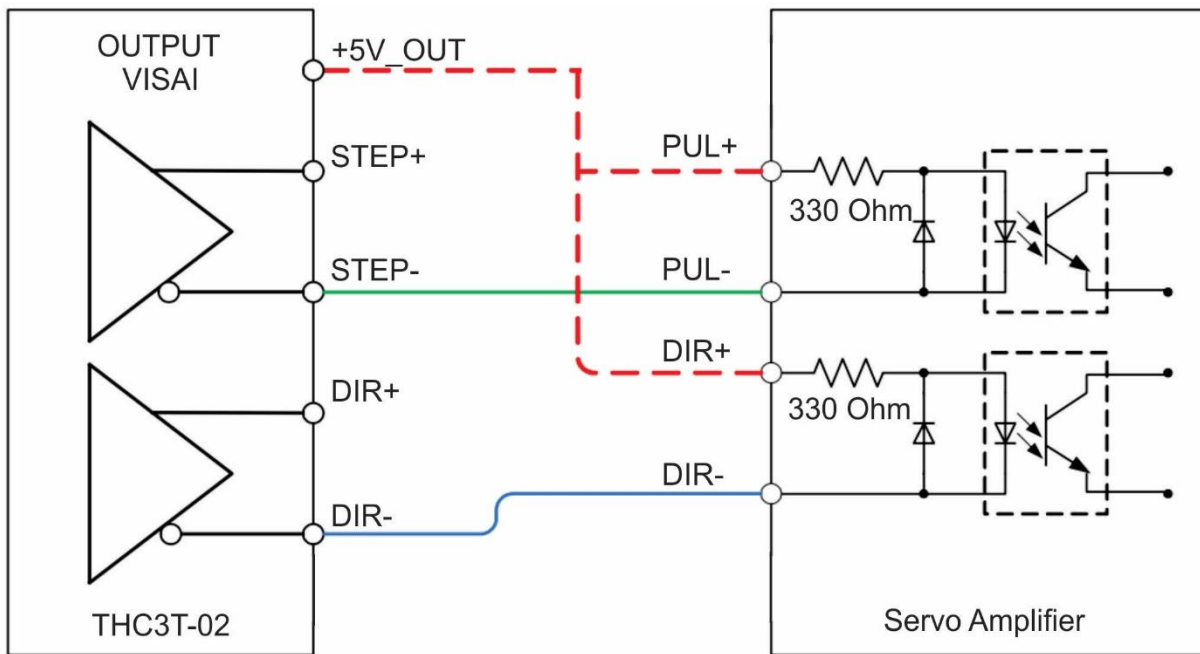
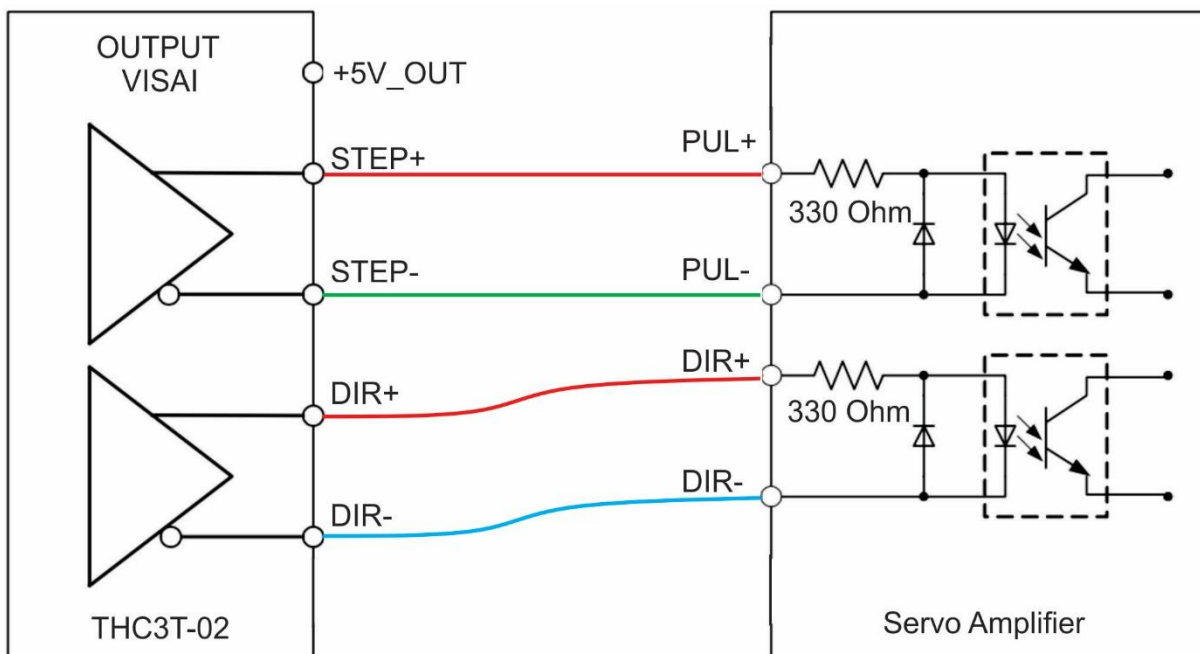

Fig12. Output Step/Dir to driver Z , option 1
Fig13. Output Step/Dir to driver Z , option 2
- Step 4: Connect output pulse/dir to driver Z (fig.12 and fig. 13)